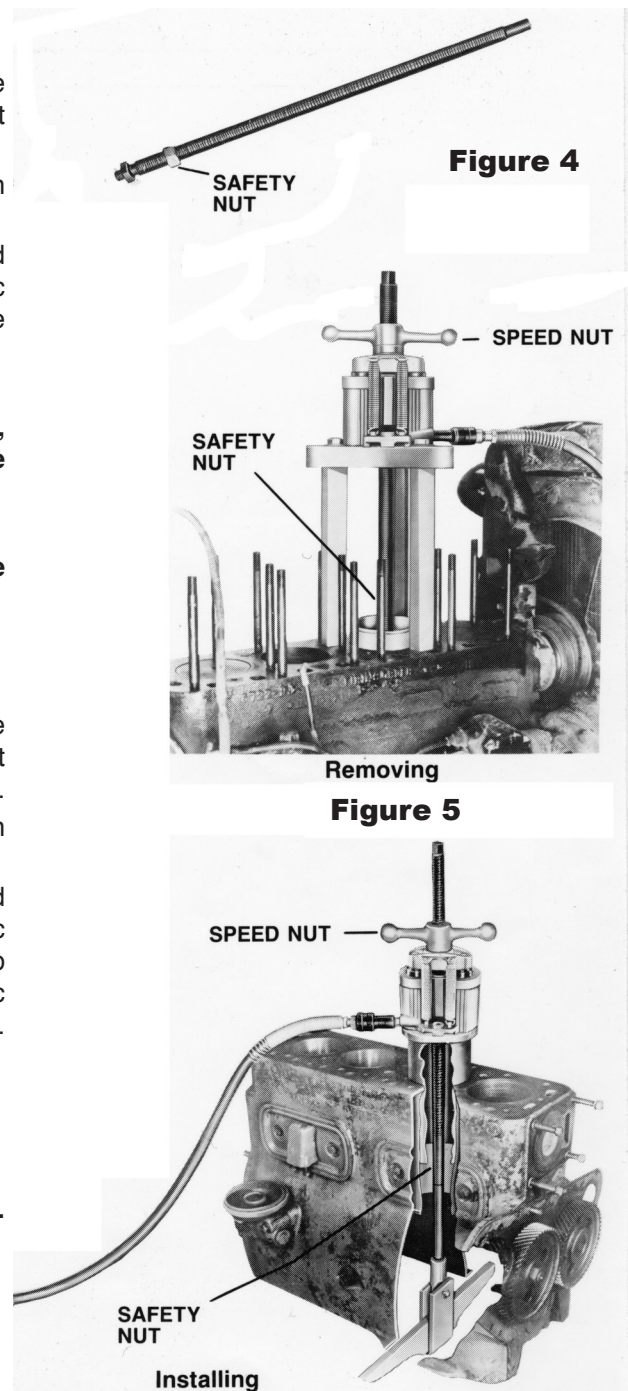

Figure 6
2. Place a safety nut (Item 13) on the pulling screw in the location shown in Figure 6.
3. Remove the threaded insert from the hydraulic cylinder, and replace it with the smooth insert (Item 14). Place the hydraulic cylinder on the adapter plate (not included) located on top of the sleeve. Insert the pulling screw through the hydraulic cylinder, and take up any slack with the speed nut (Item 15). See Figure 6.